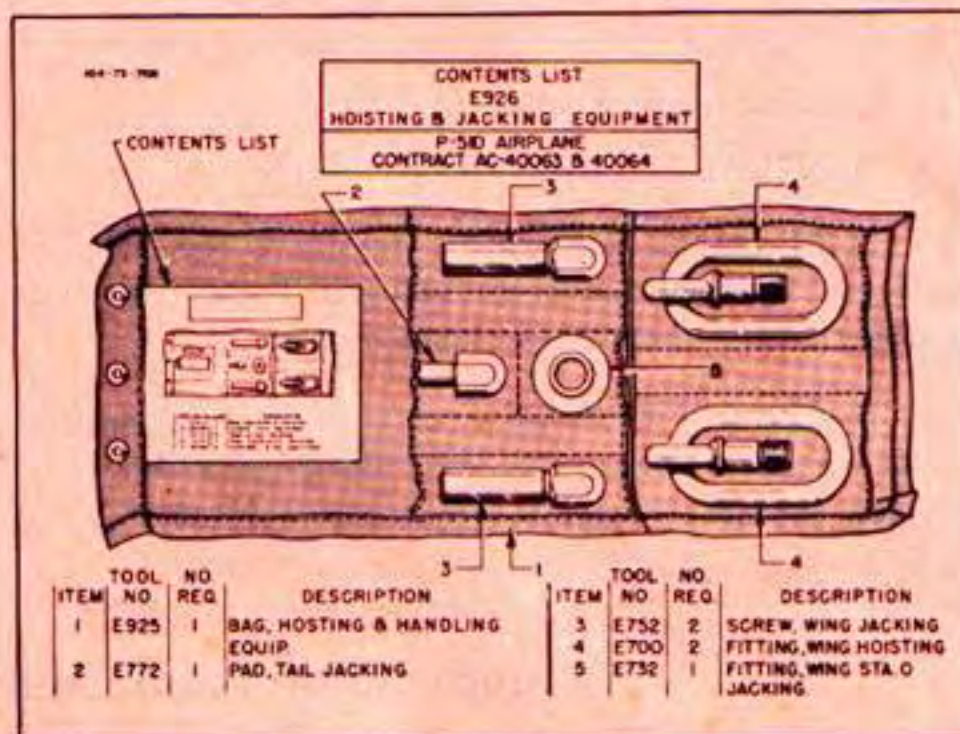

Figure 76—Tool Kit Furnished With Airplane
(1) AIRPLANE TOOL KIT.—An E926 tool kit is furnished. (See figure 76.)